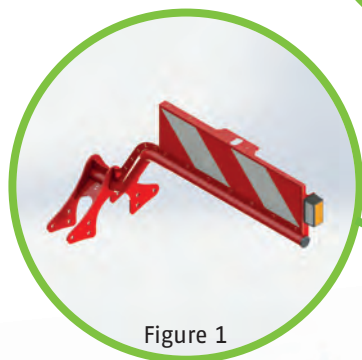

Figure 1
- **Warning panel with LED contour lamp (Figure 1)**